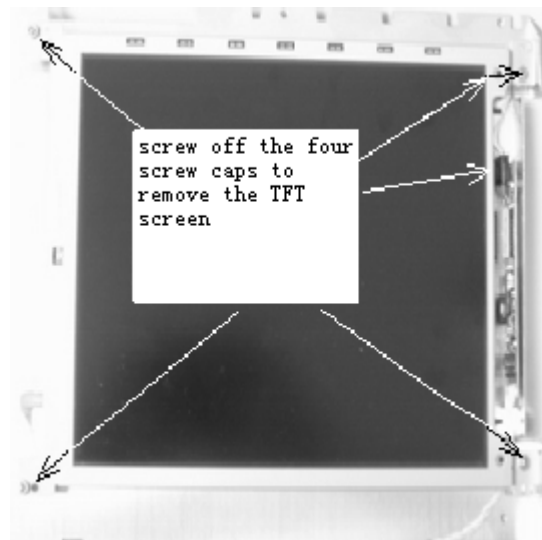

Figure 5-75
6. Screw off the 4pcs screw caps that fix the TFT screen, disconnect all cables (Figure 5-75)